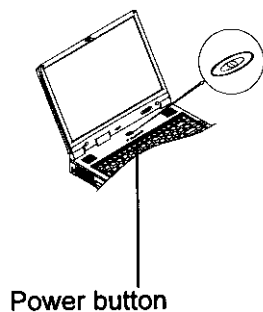

Figure 1-4
4. Press the power button to turn the system on or off (Figure 1-4).
Use this button to turn the system on or off (Figure 1-4). After proper configuration under SCU, this button can be used as suspend/resume hot button (refer to Chapter 3: BIOS Utilities, Power Menu for more information).